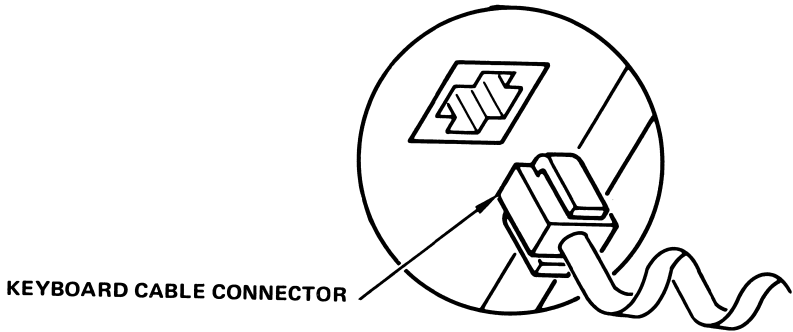

Figure 5-1. Connecting the Keyboard Cable to the Keyboard
2. Plug either end of the coiled cord into the connector provided on the keyboard (Figure 5-1).